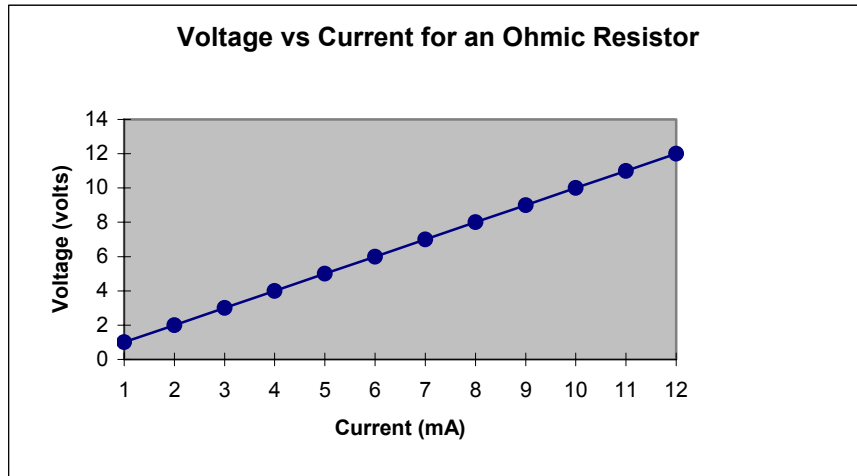

Figure 4.
**Ohmic and Non-Ohmic Resistors** An *ohmic* resistor is one in which the value of the resistor does not change over a fairly wide range of applied voltages and currents. A graph of voltage vs. current for an ohmic circuit is shown in Figure 4. Since the ratio of voltage to current is fixed, the resulting plot is *linear*, i.e., it is a straight line that follows the relationship  $y = mx + b$  (the point, slope, intercept formula for a straight line).
Notice that the value of the ohmic resistor may be obtained from Figure 4 simply by determining the *slope* ( $m$ ) of the plot. This is clearly not the case in Figure 5 where the plot is a curved line. The best we can do in this case is to obtain the resistance at a specific voltage and current and to look at the resistance or slope point by point.
From this data make a plot similar to Figure 4 in your lab notebook. Be sure to plot the voltage values, in volts, on the vertical axis and the current values, in amperes, on the horizontal axis (since your ammeter is in the mA scale remember that 1 mA is  $10^{-3}$  amperes). This plot should occupy most of a page and should be rotated  $90^{\circ}$  to make it as big as possible. Use the grid in your lab notebook for a scale and be as neat and accurate as possible.
Repeat the procedure outlined above for the circuit on the right in Figure 7, but this time start with a potential of one volt and increase it in one volt increments until you have acquired 20 data points. Compute the resistance of the light bulb for each data point. From this data make a plot similar to Figure 4 in your lab notebook. Again be sure to plot the voltage values, in volts, on the vertical axis and the current values, in amperes, on the horizontal axis. Once you have plotted your data points (make them small), draw the best (narrow) curved line that you can that best fits the data points. This line should be a smooth curve (do not "connect the dots"). Is the light bulb ohmic or non-ohmic? Compute the slope of your plot at each data point.